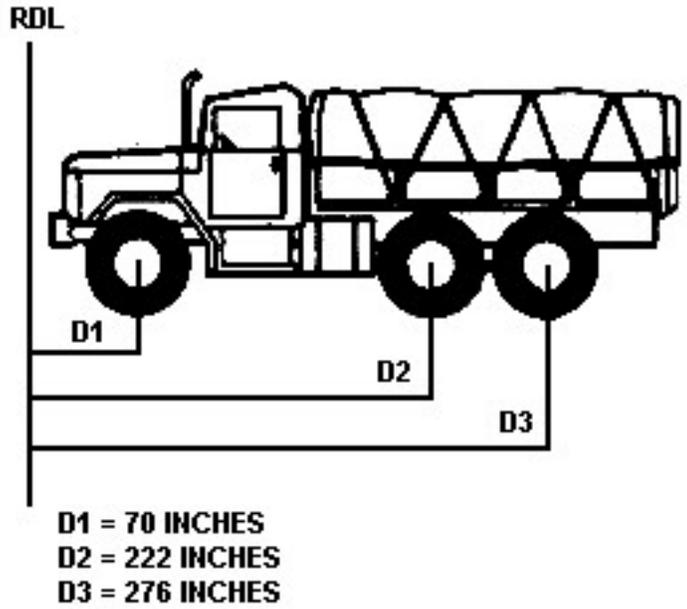

Figure 3-7
3. Measure axle distances (see Figure 3-7).